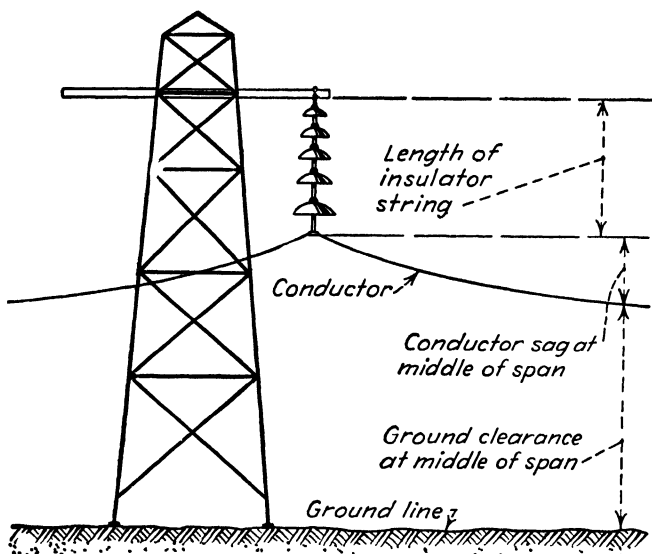

FIG. 8-24. Sketch to illustrate height of tower.
**Tower Height.** The required tower height between the ground line and lowest crossarm is easily seen from Fig. 8-24 to be equal to